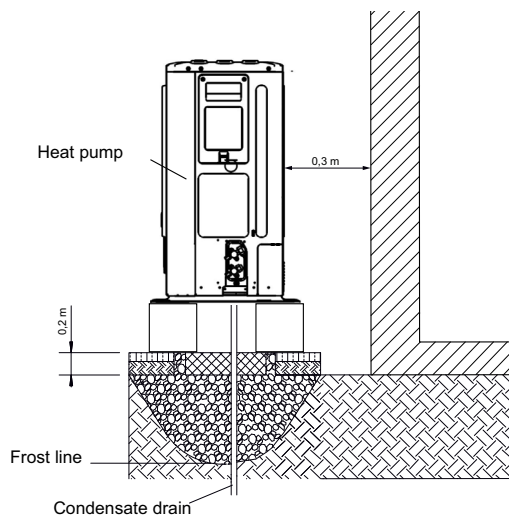
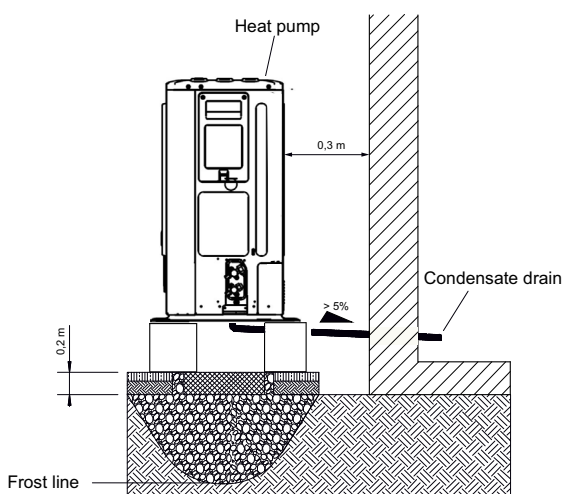

Fig. 5.2
Fig. 5.3
- It is advisable to install the outdoor unit close to a wall, on a foundation separate from the building with a minimum clearance of 0.3 m on the intake side (Fig. 5.2 + Fig. 5.3).
- The minimum clearances (Fig. 5.2) indicated must be adhered to.